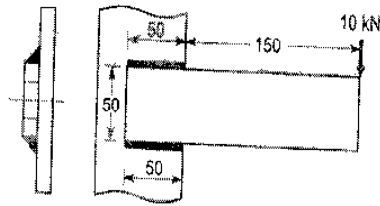

Figure 1
- Q4)** Determine the throat dimension of welded connection of steel plates as shown in figure 1 if the permissible shear stress is limited to 95 N/mm^2